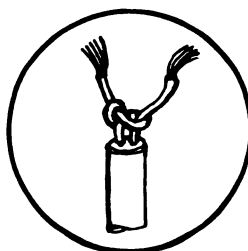

Fig. 5
5. Remove a half-inch of the insulation from the end of the wires. Do not cut any of the small wires. (Fig. 5)